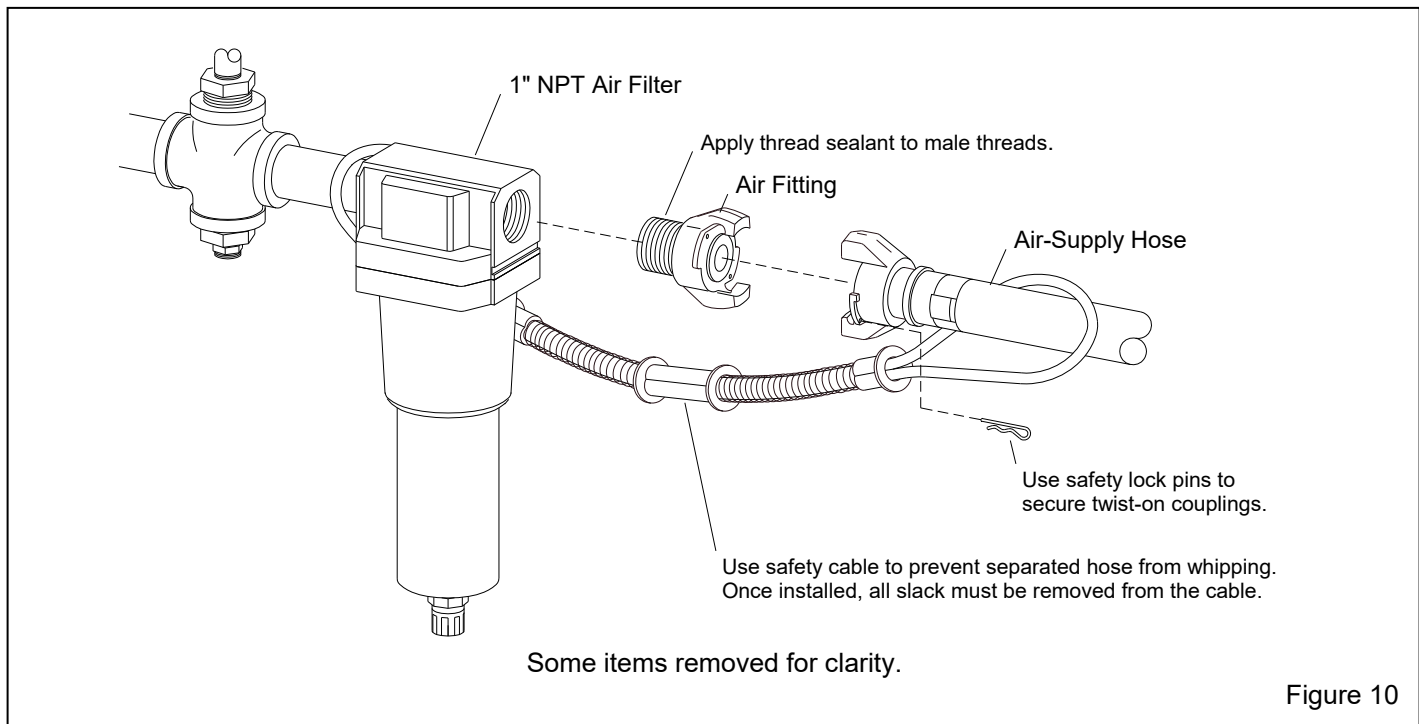

Figure 10
2.8.1 Apply thread sealant to the male threads of an air fitting that is compatible with the air-supply hose fitting, as noted in Section 2.8.2, and install it onto the 1-NPT air filter located at the blast machine inlet, as shown in Figure 10. Note that the style of connection shown is for reference only.